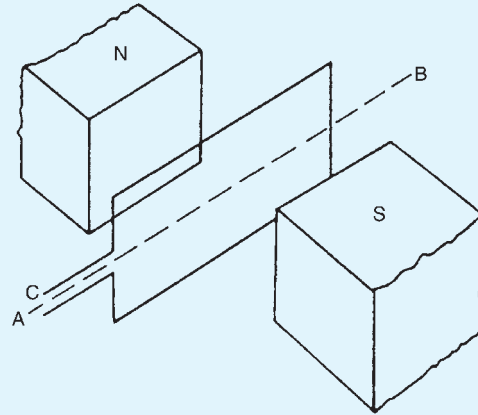

Figure 8.21
- Figure 8.21 shows a rectangular coil of wire placed in a magnetic field and free to rotate about axis AB. If the current flows into the coil at C, the coil will: